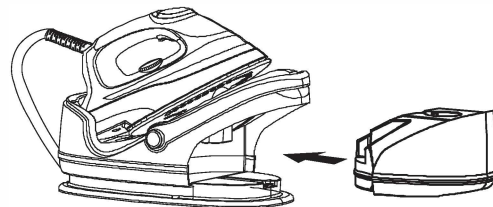

Fig.6
5. Replace the water tank into the base unit again. It will be locked in place with the base unit until a "click" sound is provided. (Fig.6)